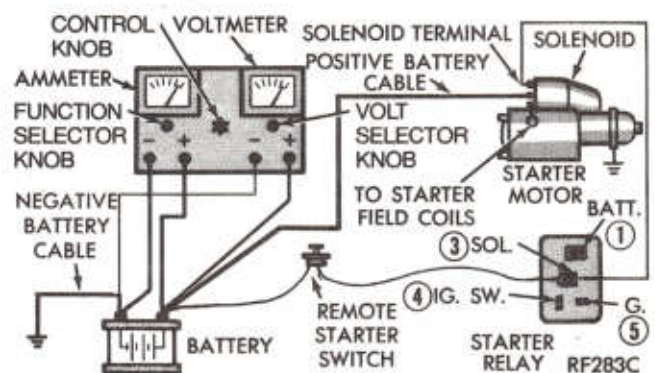

Fig. 2—Amperage Draw Test
(5) Connect heavy Positive ammeter lead (Red) to Positive battery terminal. Connect heavy Negative ammeter lead (Black) to Negative battery terminal (Fig. 2).
(6) Connect Positive voltmeter lead (Red) to Positive battery terminal. Connect Negative voltmeter lead (Black) to Negative battery terminal (Fig. 2).
(7) Connect a remote starter jumper per instructions of its manufacturer (Fig. 2).